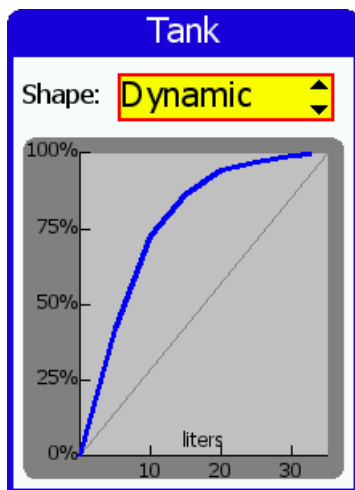

Figure 40: Tank shape selection window. The figure shows that the curve for the Dynamic WT9 tank is very non-linear
2. Select *T1 Shape*. This opens a tank shape window, Figure 40. Use **up** or **down** button to select the correct shape for your aircraft tank. The graphics below shows the non-linearity of the tank. Straight diagonal line indicates that the tank is linear. Please note that changing the shape deletes any existing tank calibration. See the *IMPORTANT* box on the page 58.